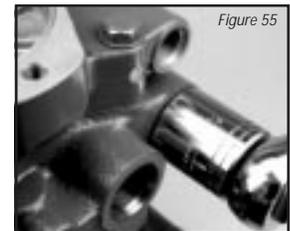

Figure 55
**27** Install the two high pressure relief valves. Torque valves 128,8 to 142,4 N•m [95 to 105 lbf•ft] (see Figure 55).